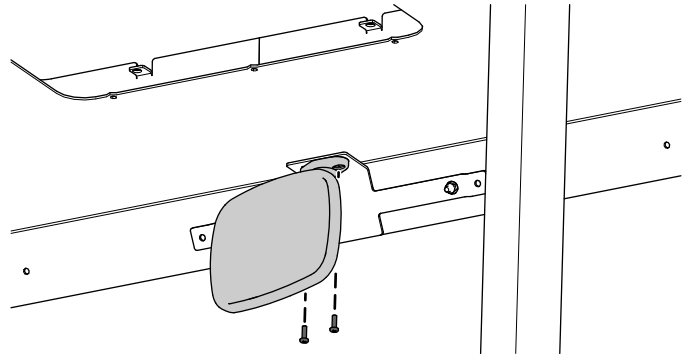

Figure 6
3. Secure the mirror to the mirror mount using 2 Phillips-head screws (#10 x 5/8 inch) as shown in Figure 6.